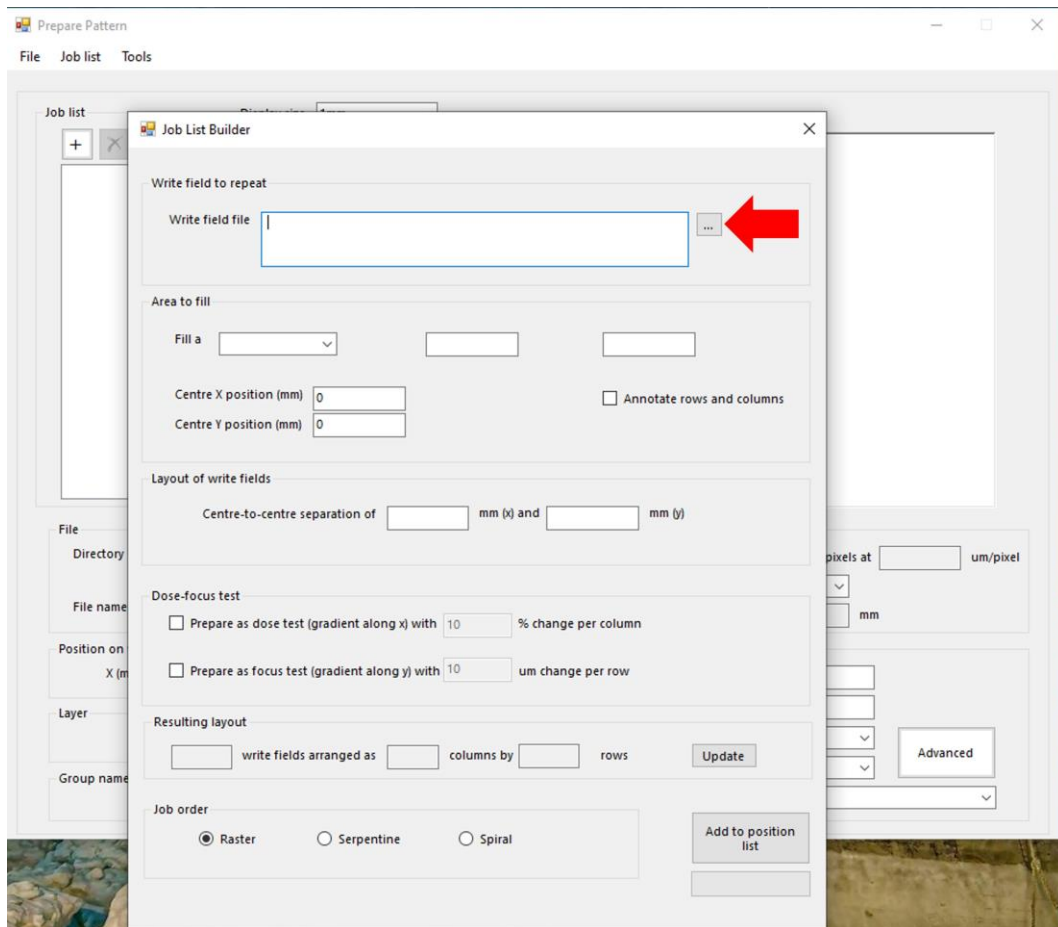

Figure 2 Select the write field file.
- c. Input the write field file: to choose the designed pattern file for the dose focus test, click “...” in the Job List Builder window (Figure 2).